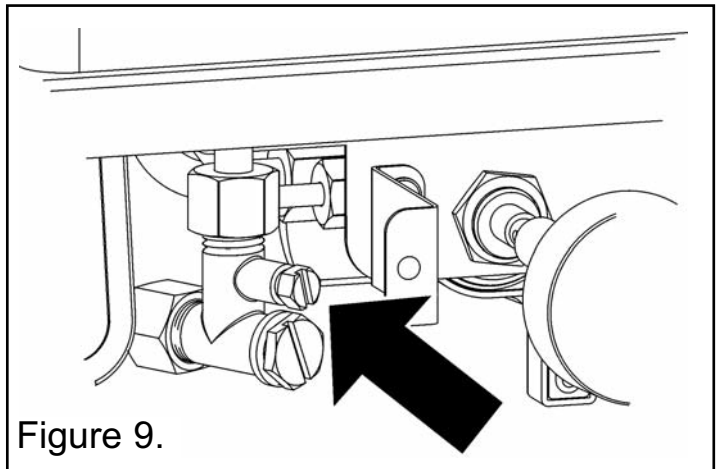

Figure 9.
- Check the inlet pressure by fitting a pressure gauge at the test point. The test point is on the inlet 'T' connector (See figure 9). Check the pressure with the appliance alight and set at maximum output.